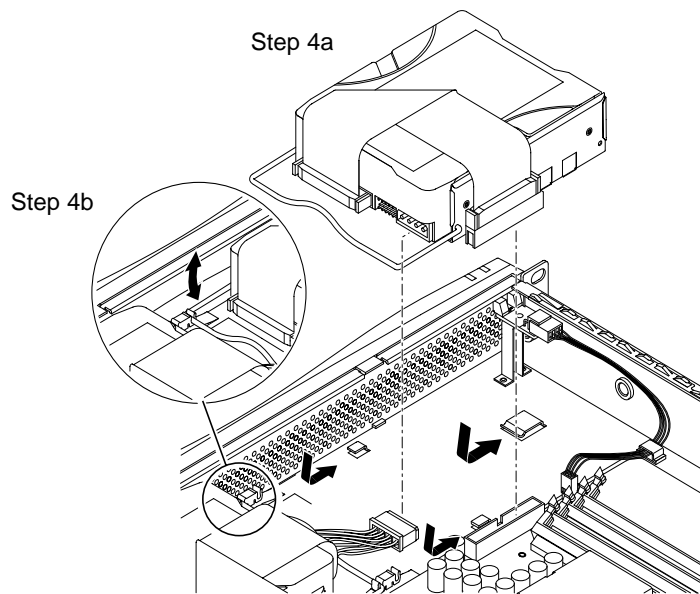

FIGURE 8-9 Installing a Hard Disk Drive
4. **Insert and align the new hard disk drive (see FIGURE 8-9).**